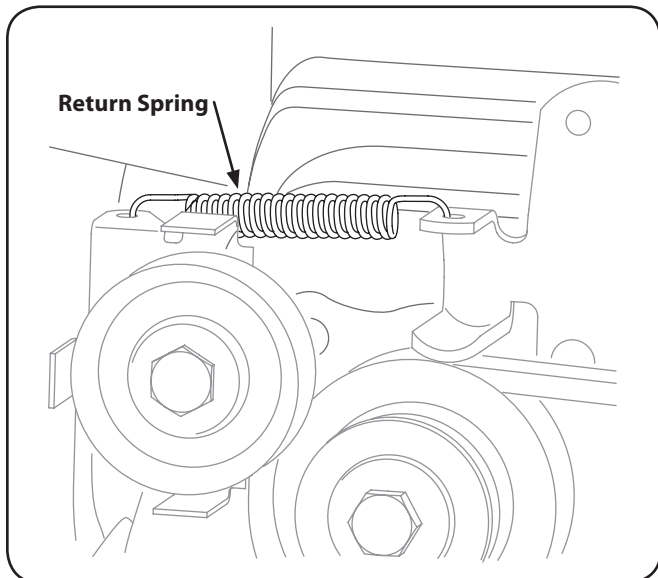

Figure 5-3
6. Remove the return spring. See Figure 5-3.